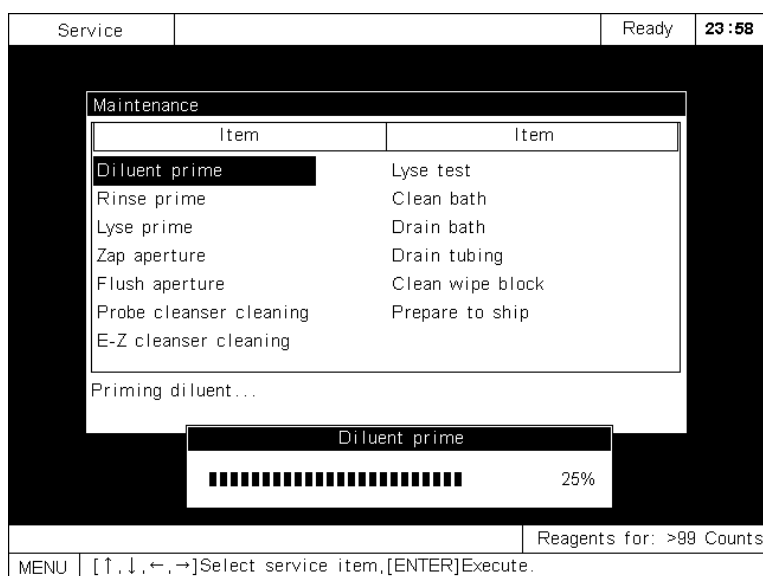

Figure 8-3 Priming tubing with diluent
- Press [ENTER] to prime the tubing with diluent and the priming progress will be displayed at the bottom of the screen, as Figure 8-3 shows.